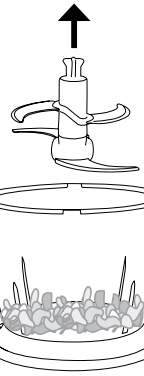

FIG. 11a.
11. Remove the vortex 4 blade from the food processor bowl as illustrated in Fig. 11a and pour out the processed food.